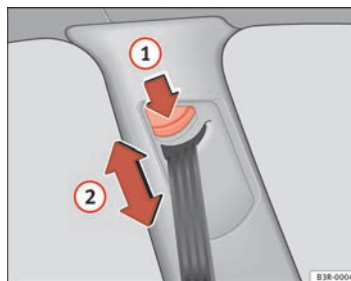

Fig. 16 Belt height adjuster
- Press button ⇒ fig. 16  to adjust the belt height. ▶
- Take hold of the top guide fitting and slide it up or down so that the shoulder part of the seat belt is positioned roughly midway over the shoulder, although **it must never rest against the neck** ⇒ page 25, fig. 16 (2) ⇒ ⚠ in “Seat belt position” on page 23.